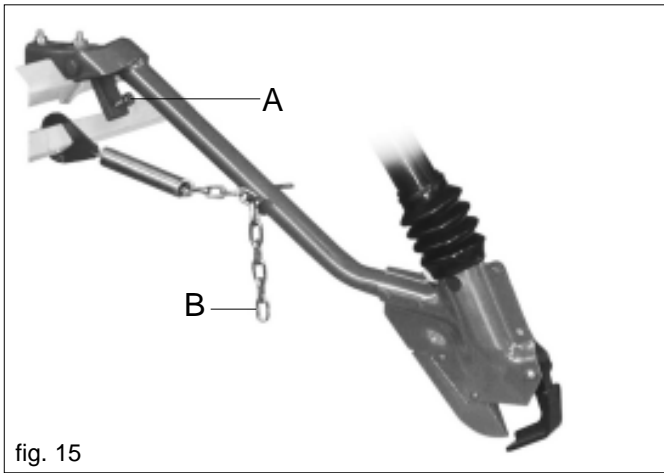
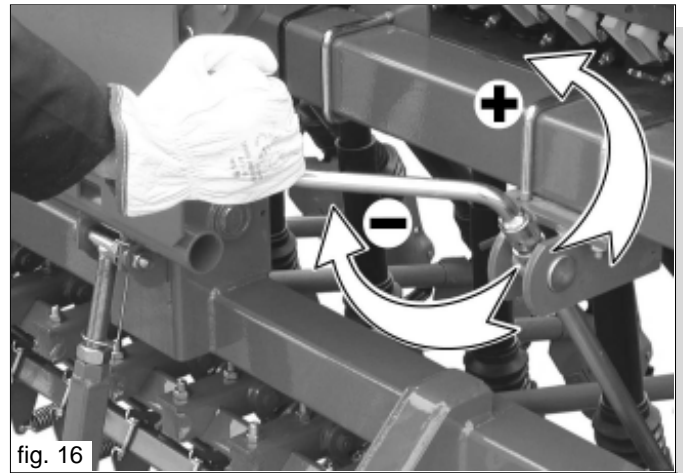
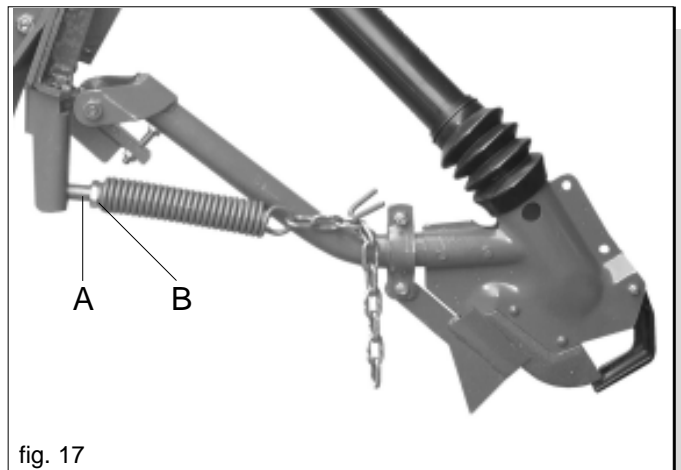
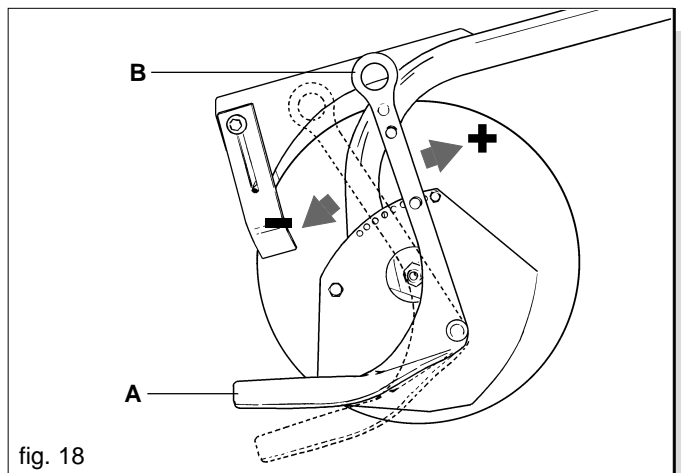

fig. 15
fig. 16
fig. 17
fig. 18
Sowing depth is determined by the adjustment screw (Fig. 15, ref. A): loosen the nut and turn the screw to adjust sowing depth. Tighten the nut to lock the adjustment screw in place. Use the crank (Fig. 16) to increase (+) or decrease (-) planter coulter spring pressure, on the basis of the type of terrain being sown. The pressure of the individual springs can also be adjusted through the position of the chain links (Fig. 15, ref. B). In the external rows raise or lower the pressure by adjusting the screw (A Fig. 17) and locking it with the nut (B).
The depth is determined by changing the position of the limiter block (A Fig. 18) by changing its position with the lever (B Fig. 18), only with single-disc coulters (furrow openers). Use the crank (Fig. 16) to increase (+) or decrease (-) planter coulter spring pressure, on the basis of the type of terrain being sown. The pressure of the individual springs can also be adjusted through the position of the chain links (Fig. 15, ref. B).